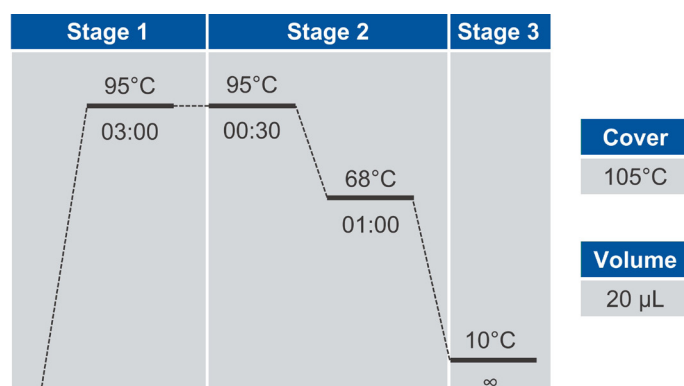

Figure 14. Olink Index PCR2 program
11. Click Open and select the program *Olink Index PCR2* (Figure 14). Click **Start**.